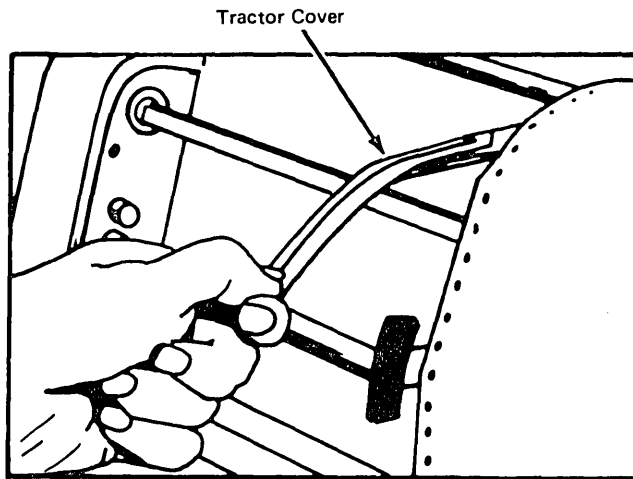

Figure 23. Closing a Tractor Cover
4. Place the left-hand margin of the first sheet over the feed pins of the left-hand tractor and close the tractor cover (Figure 23).